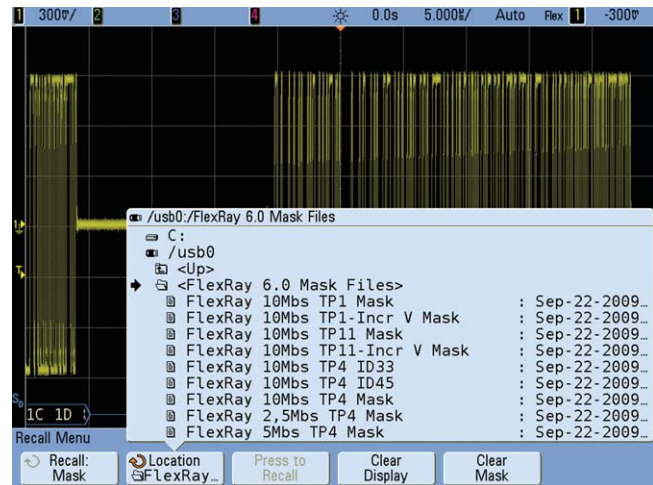

Figure 5. Recalling a FlexRay eye-diagram mask test file.
5. Press the **Location** softkey key, and then select the specific mask file to recall from the `"/usb0"` drive using the selection knob (shown in Figure 5).